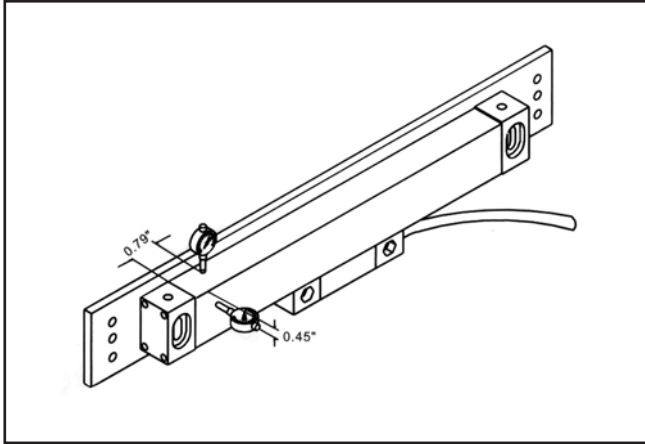

Figure 8. Scale alignment measurements.
8. The horizontal and vertical alignment measurements are taken at 20 mm away from the scale ends, as shown in **Figure 8**.